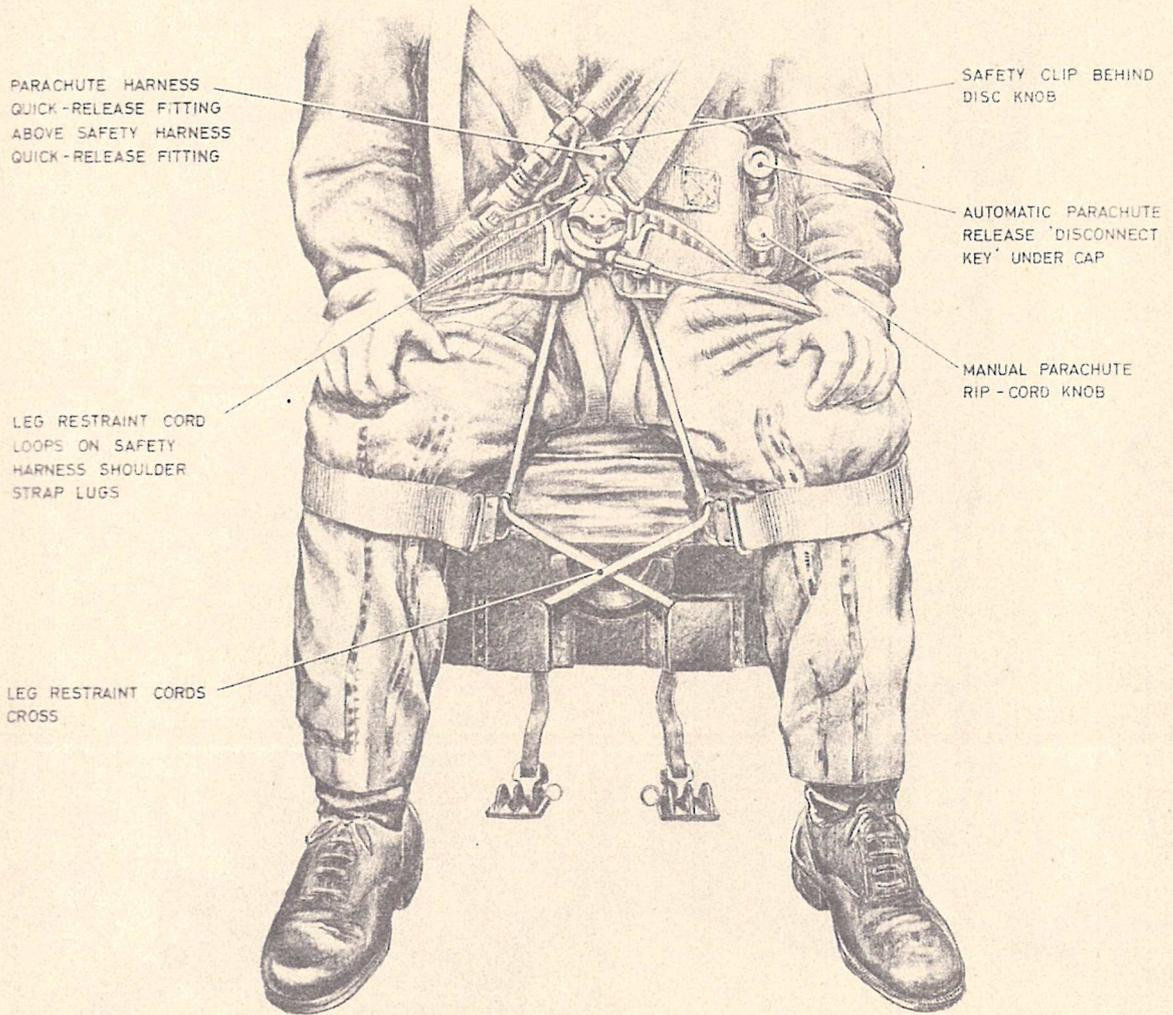

Fig. 3. Arrangement of harness and leg restraint cords
21. The procedure is as follows; refer to fig. 3, 4 and 5 for details as necessary:—